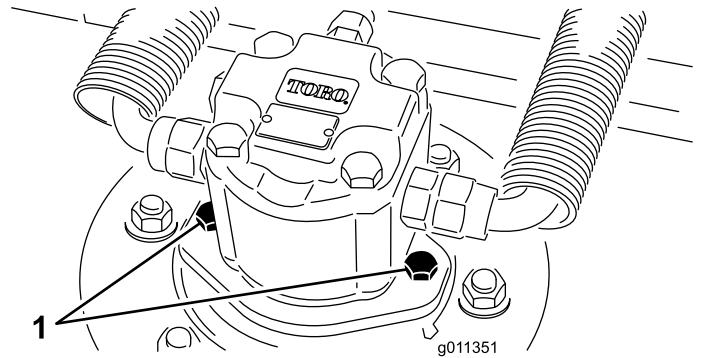

Figure 59
2. Disconnect and remove the hydraulic motor from the cutting unit (Figure 59). Cover the top of the spindle to prevent contamination.
4. Install the hydraulic motor to the deck (Figure 59). Make sure that the O-ring is in position and not damaged.